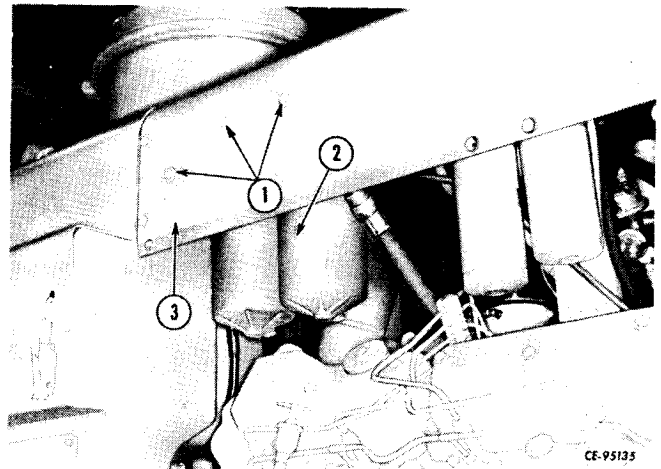

Figure 2-4
Remove oil filters (2, Fig. 2-4) from side of hood (3) by removing bolts and nuts (1). Secure oil filters to top of engine. The filters are removed with the engine.